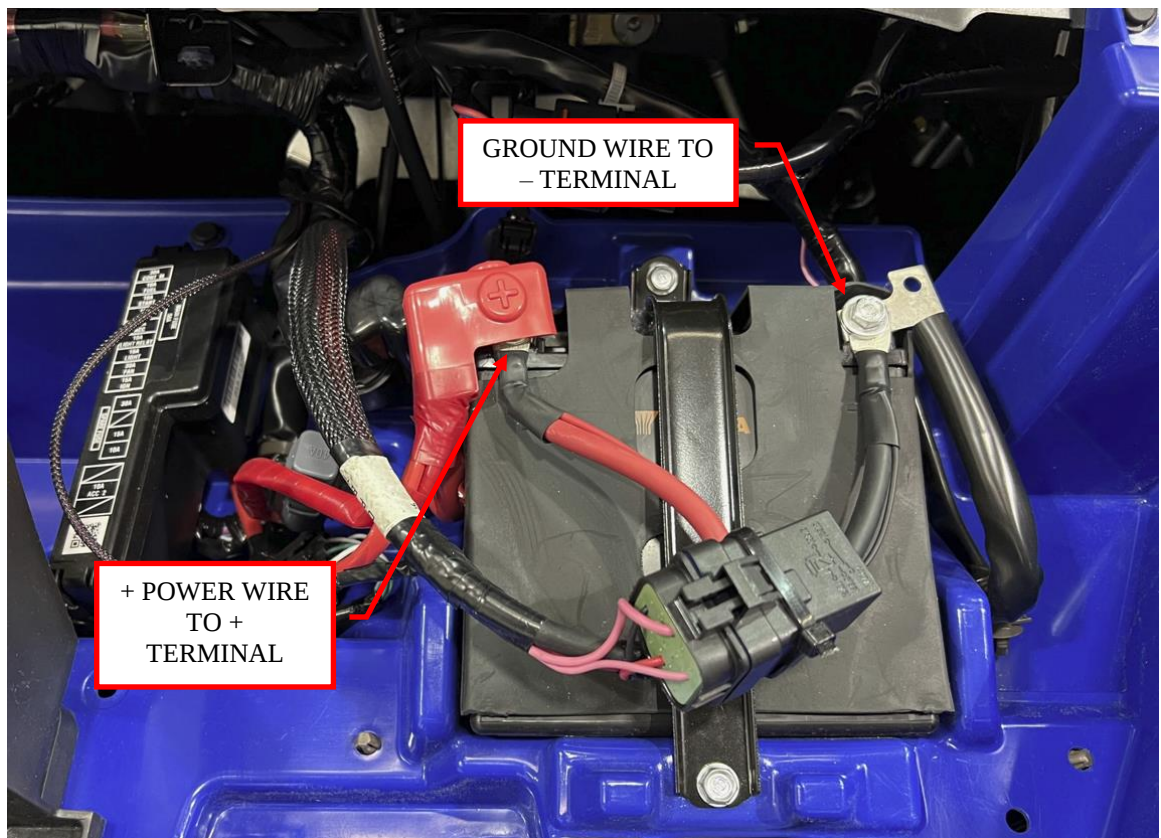

Figure 14: Attach the main power / ground wire.
14. Connect the red power wire to the positive terminal of the battery. Connect the black ground wire to the negative terminal of the battery. Use the supplied M6 x 20mm bolts and washers in place of the factory hardware. You may need to use two washers per bolt if the bolt bottoms out on the battery terminal before it tightens the cables. See Figure 14.